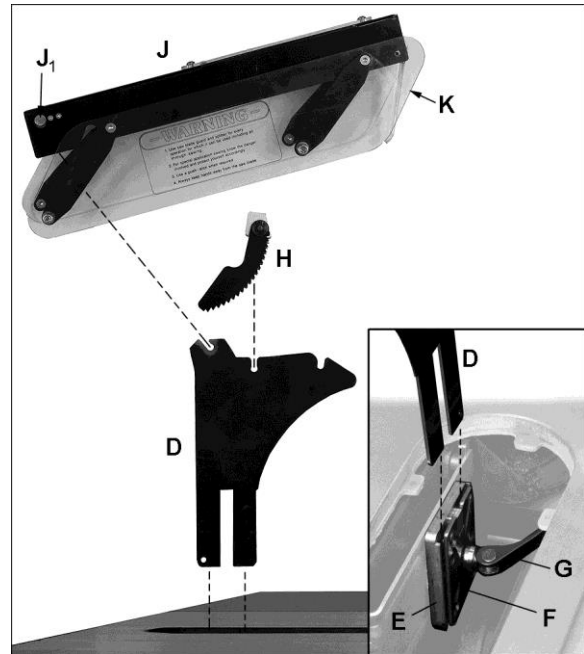

Figure 12
Refer to Figure 12.
3. Pull quick-release lever (G, Figure 12) to open position. The clamp plate (F) is spring loaded and will move away from the bracket (E), leaving a gap.
4. Slide prongs of riving knife (D) into slot between bracket (E, Figure 12) and clamp plate (F), and push riving knife down as far as it will go.
5. Push lever (G) to closed position.
2. Position anti-kickback pawl assembly (H) as shown in Figure 12; the angled side of pawl block faces toward front of saw.
3. Lower pawl assembly onto center notch of riving knife, with pawls straddling knife. Push and hold button on pawl block (on opposite side of that shown in Figure 12), and push
The bracket and clamp plate (E/F, Figure 12) are adjusted at the factory and no further adjustment of the blade guard and riving knife assembly should be necessary. However, **proper alignment is very important**. Before operating table saw, read section 9.6 ,*Riving knife alignment*, to verify and follow adjustment procedure if necessary.